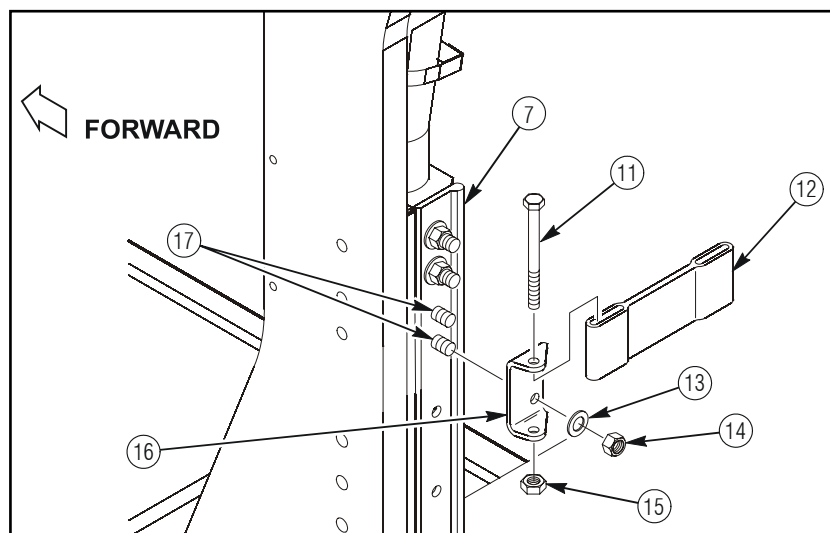

Figure 15a.
26. Remove existing rear door safety strap bracket capscrews one at a time and replace with 4397000-050 capscrews (17). Refer to figure 15a.
27. Install 6435652-01M1 safety strap bracket (16) on two capscrews (17) and secure with two 4397005-013 washers (13) and 4397064-003 locknuts (14) as shown in figure 15a. Tighten locknuts (14) to 21 lb-ft (28.5 N·m).
32. Install 6435262-01M1 rear door strap (12) in safety strap bracket (16) and secure with one 4397000-046 capscrew (11) and 4397064-003 locknut (15) as shown in figure 15a. Tighten locknut (15) until three or four threads of capscrew (11) are extended through locknut (15).